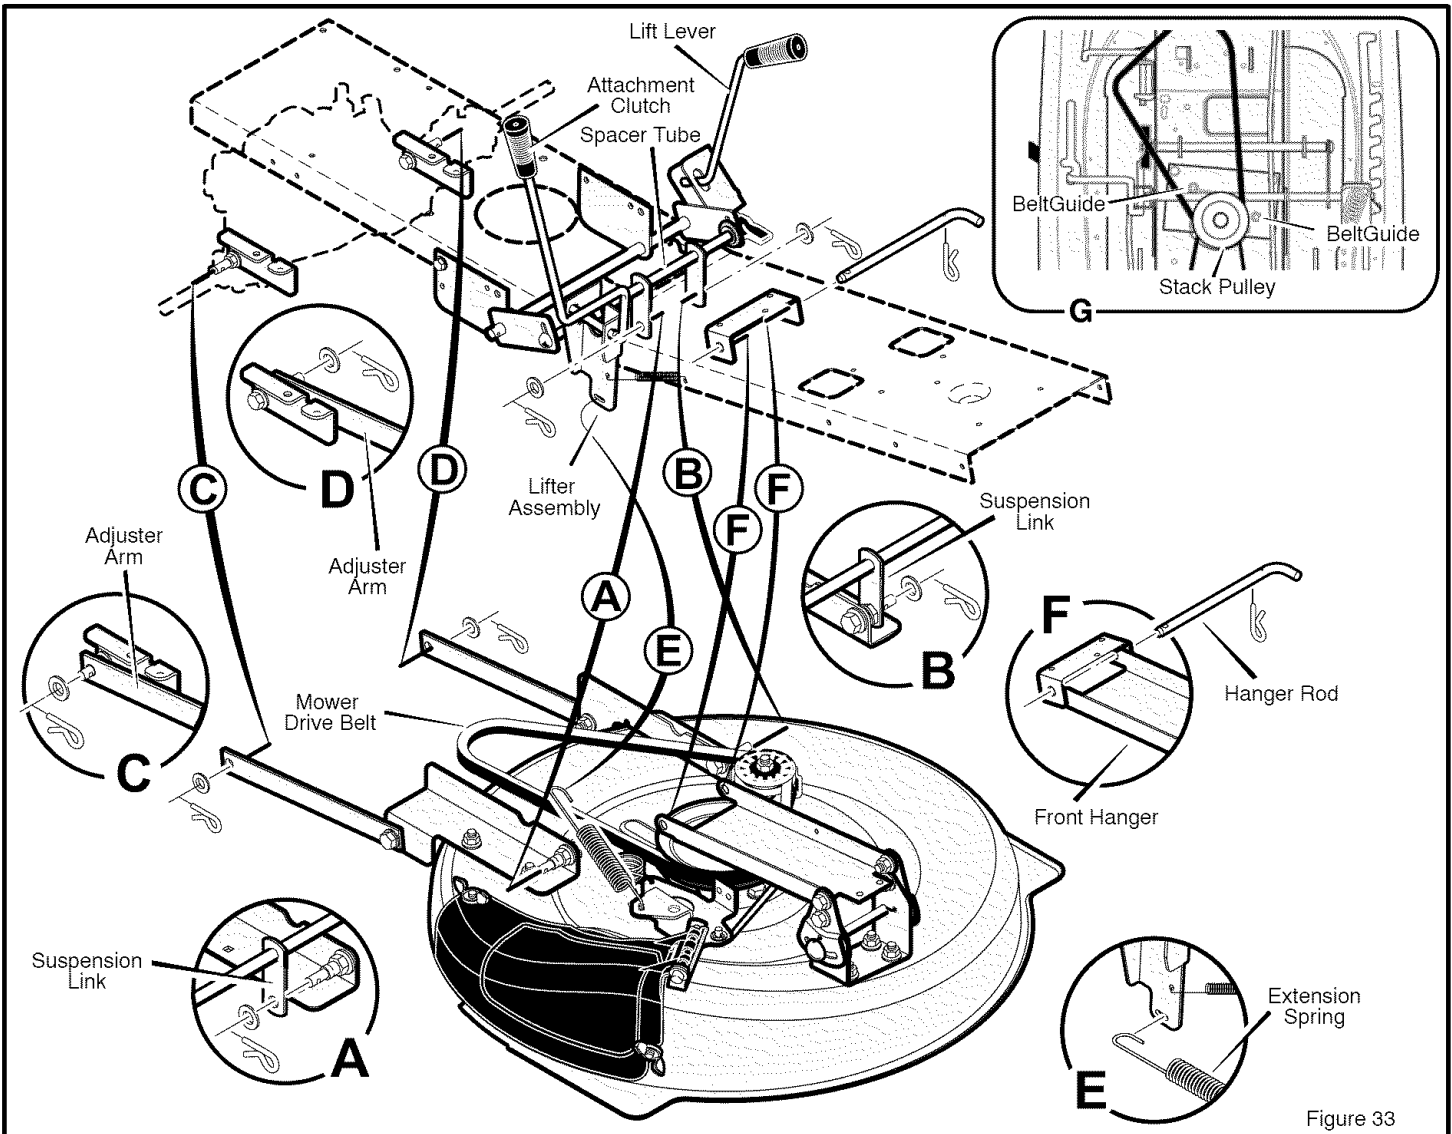

Figure 33
3. Remove the hair pins and the washers from the **rear suspension arms** (Figure 33). See illustrations "C" and "D".